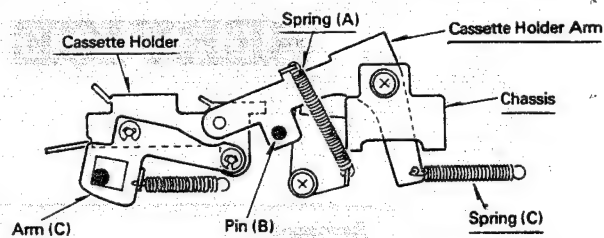

Fig. 3
3. As a result of the action in 1 and 2 above, Pin (B), through the tension of Spring (C), moves downward, causing the Cassette Holder to move in the same direction and complete loading (Fig. 3 and 4).